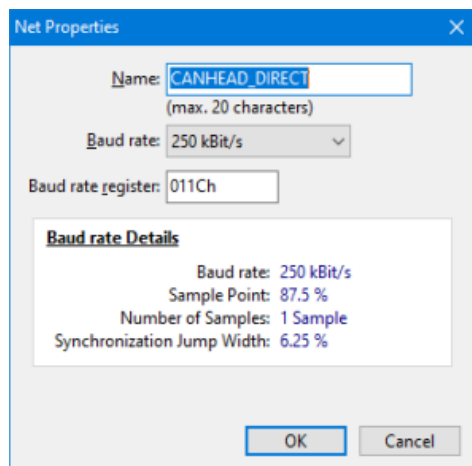

Fig. 3.3: Set baud rate
5. Right-click on the network and select **Properties**, see Fig. 3.3.